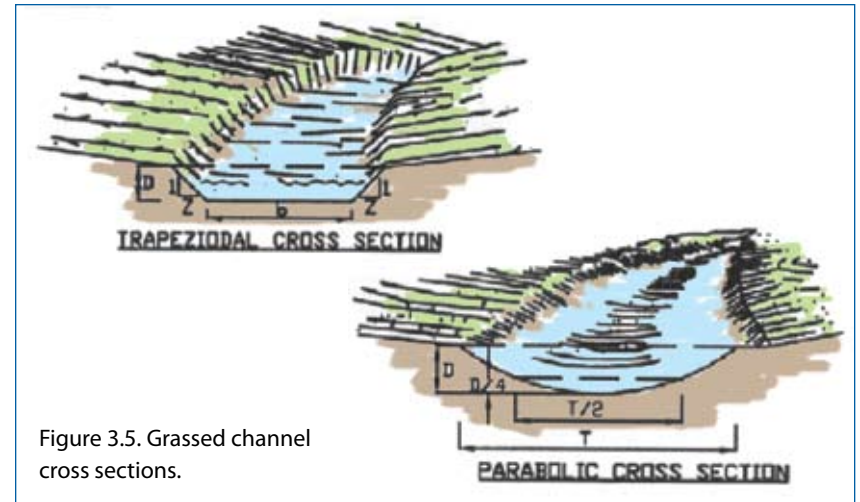

Figure 3.5. Grassed channel cross sections.
- Excavate and install as shown on the plans (Figure 3.5). Backfill over-excavated areas with moist soil compacted to the density of the surrounding material.